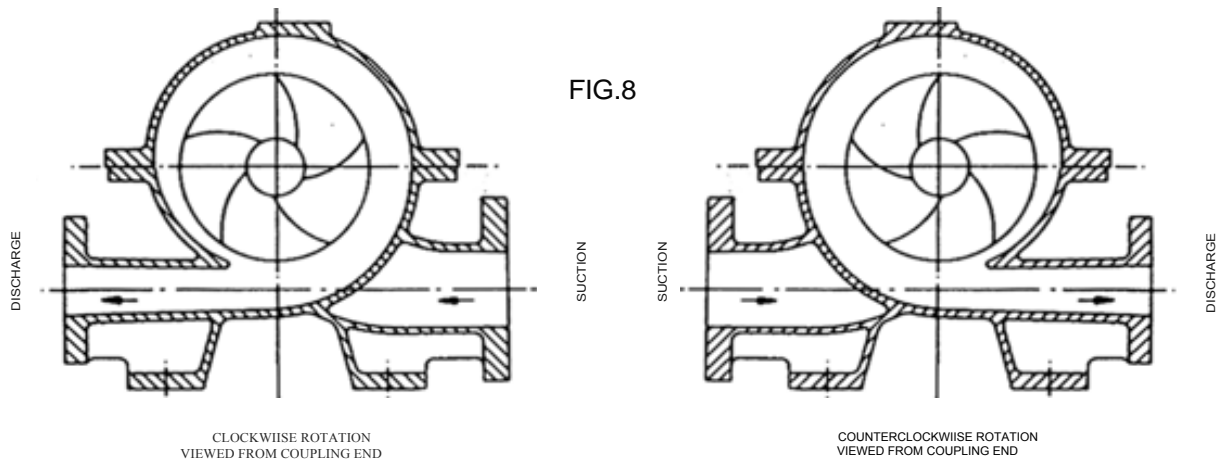

FIG. 7
Wipe over shaft with clean light oil. Lubricate sleeve O-ring (15) with silicone grease and screw shaft sleeve (10) onto shaft drive end for CW rotation: non-drive end for CCW rotation until the non-threaded end of the sleeve lines up with the shaft step (see fig.7).